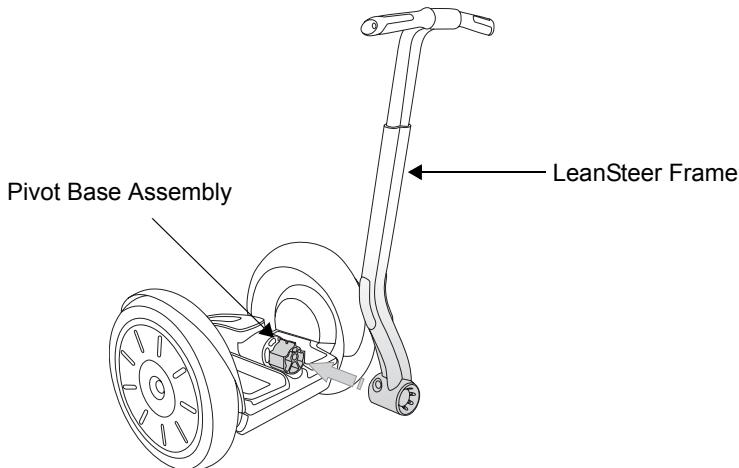

Figure 31. Attach Handlebar/LeanSteer Frame to the Pivot Base Assembly
2. Slide the LeanSteer Frame onto the Pivot Base Assembly, as shown in **Figure 31**: